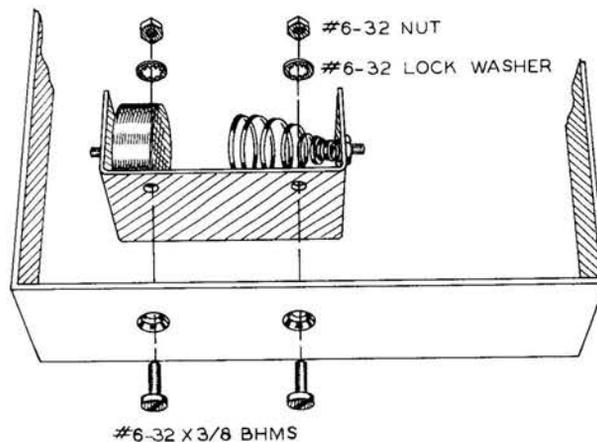

Figure 3-25
- (✓) Mount one of the battery holders behind the meter, using two 6-32 x 3/8" BHMS, lockwashers and nuts, as shown in Figure 3-25.